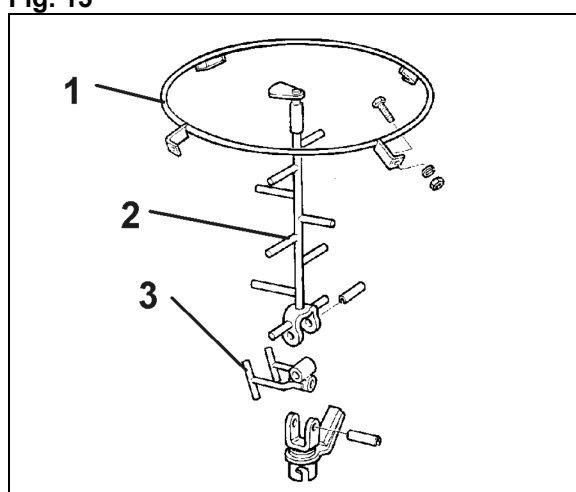

Fig. 16
1. Bolt the guide ring (Fig. 16/1) on to the provided holes in the hopper .
2. Affix the agitator upper part (Fig. 16/2) with the aid of the holding bushing on to the agitator lower part (Fig. 16/3).